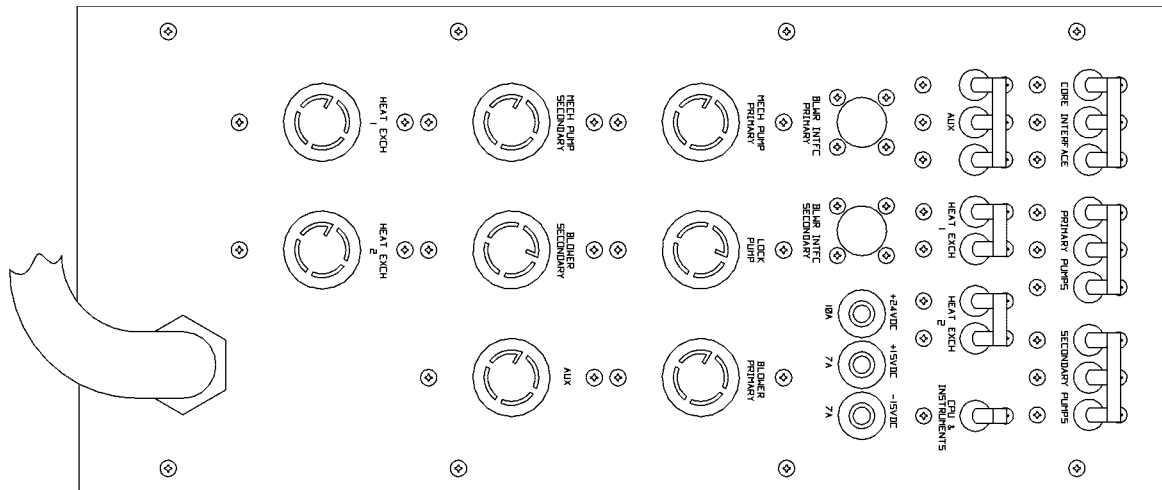
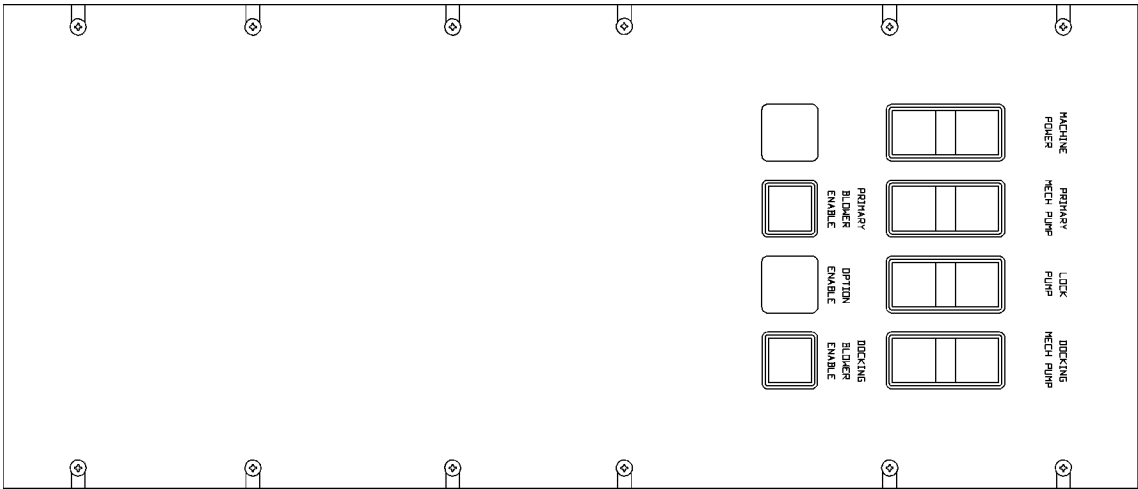

Figure 2-6. Electrical Interface Panel
Figure 2-7. Electrical Enclosure Front Panel
The Electrical Enclosure is located on the lower right side of the Mainframe. The Electrical Interface Panel (EIP) is located at the rear of the Electrical Enclosure. Review Figure 2-6 before performing any connections described in this section. Ensure that all switches and breakers on the Front Panel (Figure 2-7) are in the OFF position before proceeding.
**NOTE:** Subsequent tasks require power to the pump(s). Therefore, at this time, enable power to the service panel, and set the (1) Main System Power Disconnect, (2) the disconnect switch, and (3) the circuit breaker labeled VACUUM SYSTEM to ON.
1. Briefly apply power to the pump(s) and check rotation by alternately pressing the MECH PUMP START and OFF buttons and the LOCK PUMP START and OFF buttons. These are located on the Electrical Enclosure front panel (Figure 2-7).